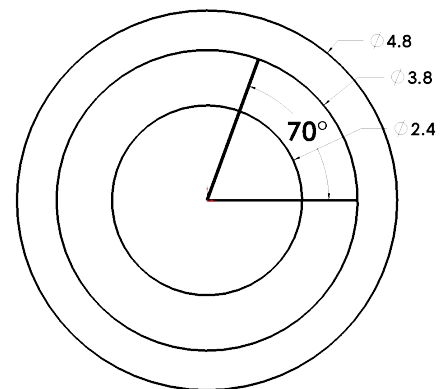

Fig. 3
Step 1. Click **Line**  (L) on the Sketch toolbar.
Step 2. Starting from the Origin  draw **two lines** out to the middle circle. Keep **one line horizontal** and the other at angle as shown in **Fig. 3**. To restart the line, **right click** and select **End Chain** from menu.
Step 3. Click **Smart Dimension**  (S) on the Sketch toolbar.
Step 4. Dimension the angle between the lines **70 degrees** as shown in **Fig. 3**. To Smart dimension the angle click both lines then move the cursor out away from the lines and click. Key-in **70** for the dimension and press ENTER.